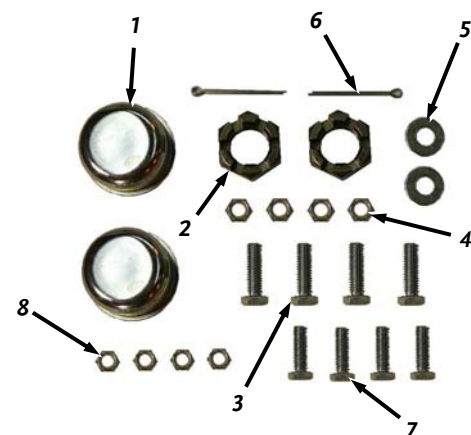

Figure 53
- Hardware Package (Table below and **Figure 53**)